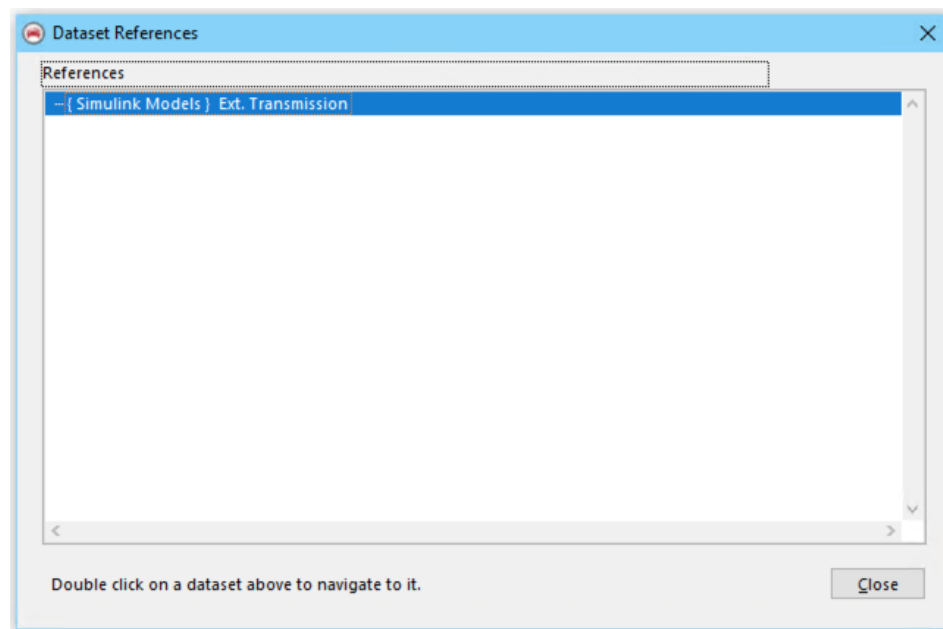

Figure 13. List of datasets from Run Control library that make use of deprecated dataset.
4. The results of the search are shown in a new window named **Dataset References** (Figure 13). These are names of datasets in the specified library (e.g., **Run Control**). Double-click on a run name in this window to bring it into view.